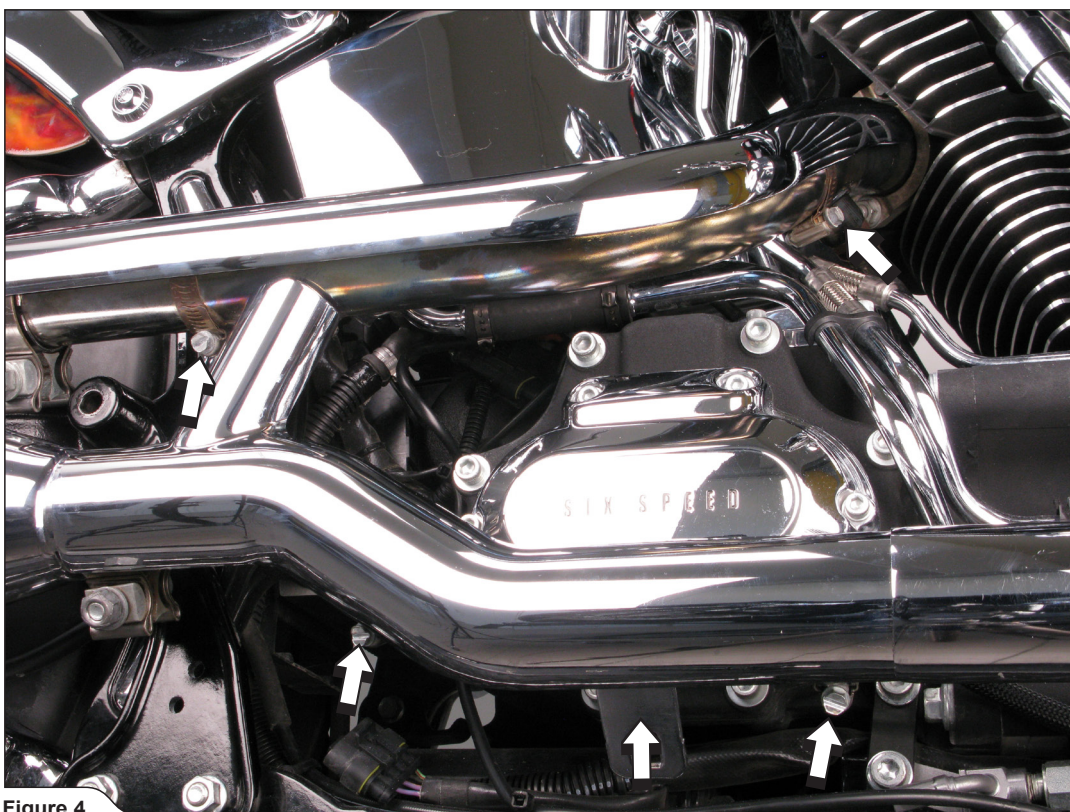

Figure 4
5. Loosen the marked heat shields' tape clamps and exhaust bracket (Figure 4).